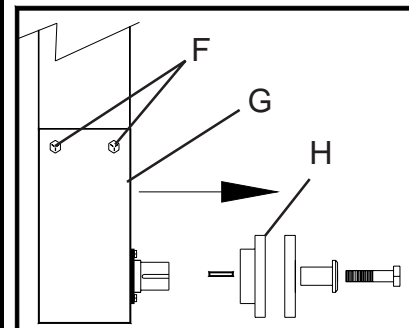

Figure 2
- 4) Loosen four Engine Mount Bolts (C) on the outside of the frame (two on each side).
- 5) Using the supplied wrench (D), turn the Belt Tensioning Bolt (E) on the front of the frame. Turning the Belt Tensioning Bolt will cause the whole engine to move on its frame. Turn the bolt CW to loosen the belts - CCW to tighten the belts.
Note: To remove belts, you must completely remove beltguard (G) by removing four bolts (F) and parts shown in figure 2.